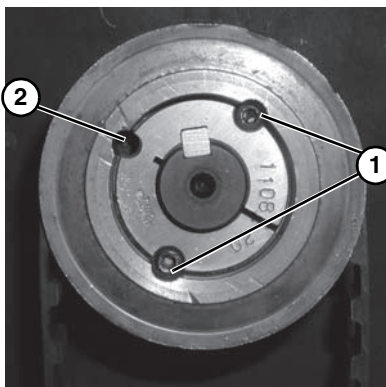

Figure 15
2. Remove taper-lock screws (**Figure 15, item 1**). Insert one (1) of taper lock screws in remaining hole (**Figure 15, item 2**). Tighten screw until pulley is loose. Remove pulley and taper hub assembly.